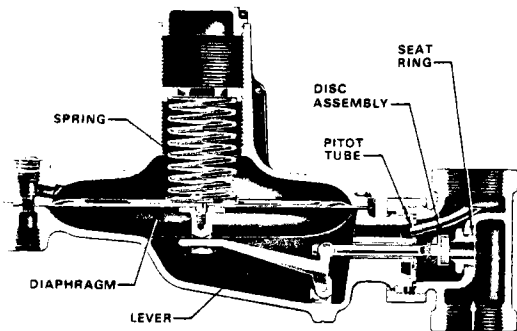
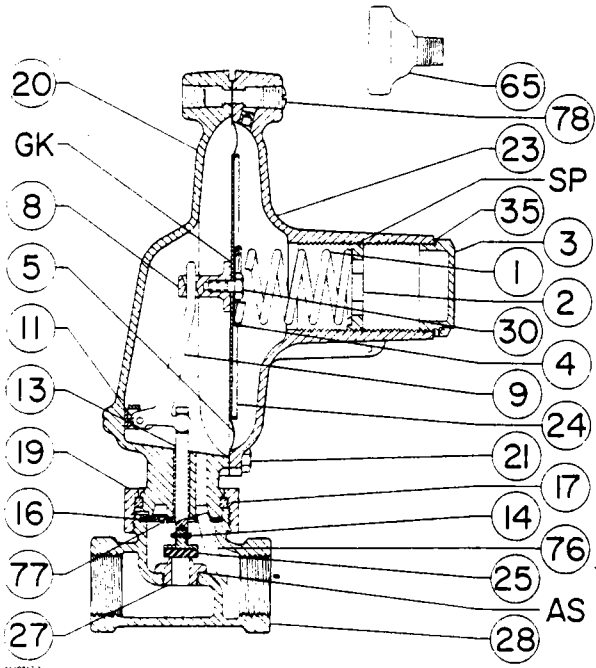
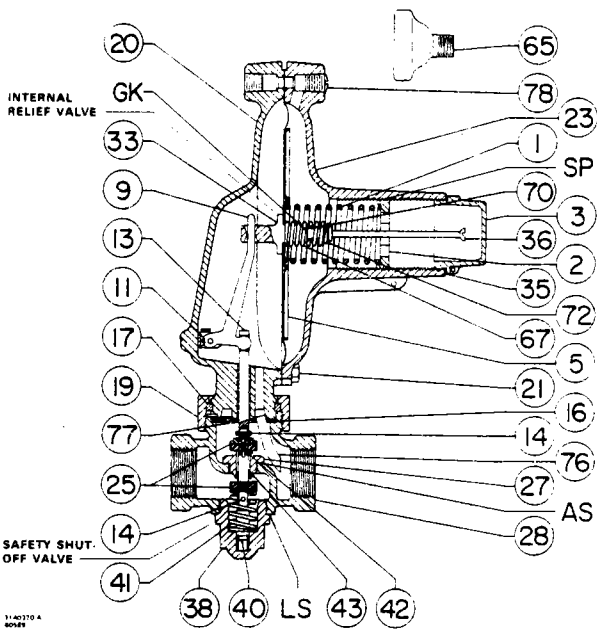
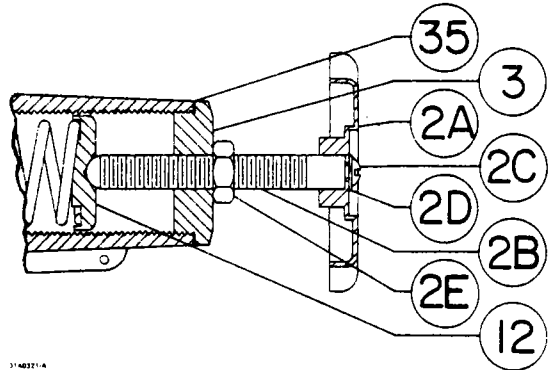

Figure 4. Interior View of Typical Y600 Series Regulator
Figure 5. Type Y600-2 or -3 Regulator Assembly
Figure 6. Type Y600-8 or -9 Regulator Assembly
Figure 7. Types Y600-12, -13 or -14 Regulator Handwheel Assembly
Be certain that the vent or pipe tap in the casing assembly is not positioned so that it can collect moisture which may drain into the casing assembly. The casing assembly may be rotated to any of four positions in order to obtain correct positioning. Follow the steps below to rotate the casing assembly. Key numbers refer to figures 5 and 6.
With all units except those with a low-pressure safety shut-off construction (Types Y600-6, -7, -8, and -9), the unit can be placed in operation by slowly introducing inlet pressure. The regulator will take control when downstream pressure is established. When placing a unit with a low-pressure safety shut-off valve into operation, lift the reset stem (key 36, figure 6) to open the regulator about half-way and hold it open until downstream pressure is established to operate the regulator. If the reset stem is lifted to its limit, flow will be shut off by the main control disc, preventing the build-up of downstream pressure necessary to operate the regulator.
The regulator has been adjusted at the factory to provide approximately the reduced pressure requested on the order. In spring-loaded units, the pressure setting may be adjusted to a value within the spring range shown in table 3. Note that units with a low-pressure safety shut-off valve (types Y600-6, -7, -8, and -9) have a higher range due to the valve spring (key 41). To adjust the pressure setting refer to figure 5 and follow the steps below.
1. Remove the closing cap (key 3).
2. Use a broad-bladed screwdriver or a 1-inch hex rod to turn the adjusting screw (key 2) either clockwise to increase outlet pressure or counterclockwise to decrease outlet pressure.
Types Y600-12, -13, and -14 with a handwheel (key 2A, figure 7) are adjusted by loosening the locknut (key 2E, if present) and turning the handwheel clockwise or counterclockwise.
Units with a safety shut-off valve will require the use of a hollow hex driver to fit over the reset stem (key 36, figure 6) or a screwdriver.
3. After making the adjustment and replacing the closing cap, the closing cap can be wired to the spring case assembly (key 23) to discourage tampering.
In all types of the Y600 Series, downstream pressure registers under the diaphragm. With some types, the registration is through a pitot tube (see figure 4) in the throat of the regulator; with other types, a downstream control line is connected to the lower casing. As the downstream pressure increases, the diaphragm lifts the lever, which moves the valve disc toward the seat ring to restrict flow. Some units have an internal relief valve, which is a spring-loaded assembly in the center of the diaphragm (see figure 6). If the downstream pressure increases after the main valve is closed (perhaps due to a nicked seat), the relief valve will open and vent gas into the upper casing where it will pass out the vent.
If the downstream pressure drops, the main spring forces the diaphragm down. This motion is transmitted through the lever, which pulls the valve disc open, allowing more gas to flow through the valve, the required gas is supplied to the downstream system and the reduced pressure is increased. If the downstream demand cannot be met and the regulator has a low pressure safety shut-off valve (see figure 6), the safety shut-off disc will stop flow completely by blocking the back side of the seat ring.
Instructions are given below for disassembly and reassembly of the regulator. Key numbers are found in figures 5 and 6 unless otherwise noted.
1. If the unit has a handwheel adjusting screw assembly (Type Y600-12, -13, and -14, figure 7), first loosen the hex nut (key 2E if present) and relieve the spring compression by turning the handwheel counterclockwise. On other units, remove the closing cap (key 3) and closing cap gasket (key 35). Turn the adjusting screw (key 2) with a 1-inch hex rod or broad-bladed screwdriver to relieve the spring compression. Units with a safety shut-off valve (figure 6) will require the use of a hollow hex driver to fit over the reset stem (key 36) or a screwdriver.
2. Remove the eight cap screws (key 21) and lift off the spring case assembly (key 23) and spring (key 1, figure 5). If the regulator has a relief valve, the relief valve spring and main regulator spring are connected to the diaphragm and diaphragm head assembly and can be removed when this unit is taken out of the lower casing.
3. Remove the diaphragm and head assembly (key 5) by tipping it so that the lever (key 9) will slip out of the pusher post (key 8, figure 5) or relief valve seat (key 33, figure 6).
4. The parts in the diaphragm and head assembly can be separated (and ordered separately) except those in Type Y600-4, -5, -8, and -9 regulators which have an internal relief valve. With internal relief construction (figure 6), the diaphragm is glued to the diaphragm head and must be ordered as an assembly (key 5, figure 6).
To disassemble the diaphragm assembly, unscrew either the cap screw (key 30, figure 5) in Types Y600-2, -3, -10, -11, -12, -14 and -15; the spring holder (key 30, not shown) in Types Y600-4, -5, and -13; or the reset stem (key 36, figure 6) in Types Y600-8 and -9.
5. To inspect the disc holder assembly (key 25) and seat ring (key 27), loosen the union nut (key 19), tip the lower casing (key 20) toward the outlet, and separate the lower casing from the body (key 28). Remove and inspect the body gasket (key 16).
6. Remove the shut-off disc holder assembly in the safety shut-off valve versions by unscrewing the body cap (key 38, figure 6) and pulling out the cotter pin (key 14, figure 6). The disc spacer (key 43, figure 6) is not part of the disc holder and may be removed from the disc holder for replacement if a new disc holder assembly is to be installed.
3. On units with a low-pressure safety shut-off valve: Put the disc holder assembly and spacer onto the stem (key 40, figure 6). Replace the cotter pin (key 14, figure 6). Place the spring on the stem and slip the disc spacer through the seat ring. Screw on the body cap.